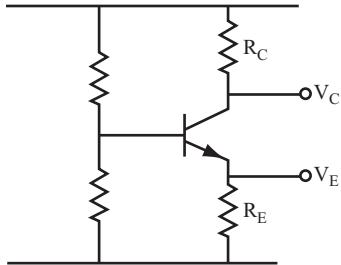

FIGURE 8.7
Calculate V_C , V_E , and A_v for the circuit shown in Figure 8.7 with $V_s = 10$ volts, $I_C = 1$ mA, $R_C = 1 \text{ k}\Omega$, and $R_E = 100$ ohms. _____
- 15** For this problem, use the circuit shown in Figure 8.7 with $V_s = 10$ volts, $I_C = 1$ mA, $R_C = 2 \text{ k}\Omega$, and $R_E = 1 \text{ k}\Omega$.
- 16** For this problem, use the circuit shown in Figure 8.7 with $V_s = 10$ volts and $I_C = 1$ mA.